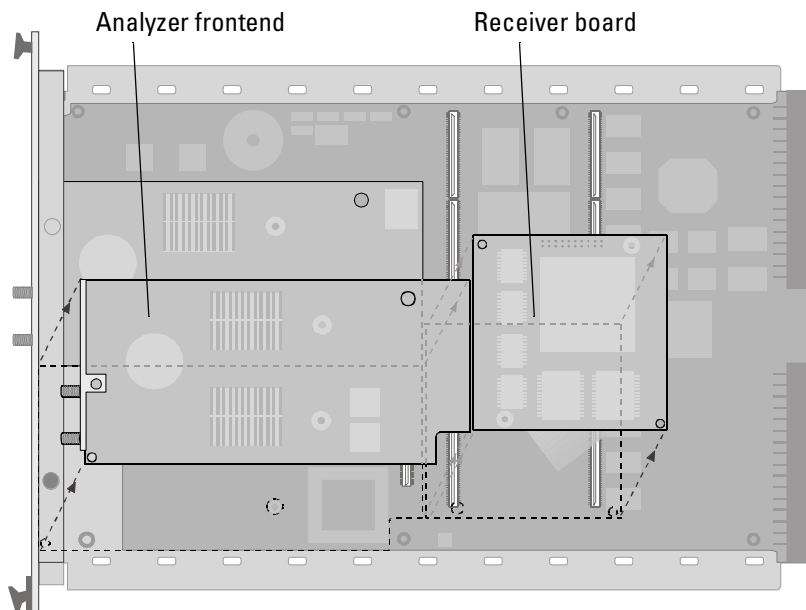

Figure 32 Removing an Analyzer Frontend
- 4** Lift off the frontend from the module, as shown in *Figure 32*. If you are removing an analyzer frontend, make sure you also remove its receiver board.